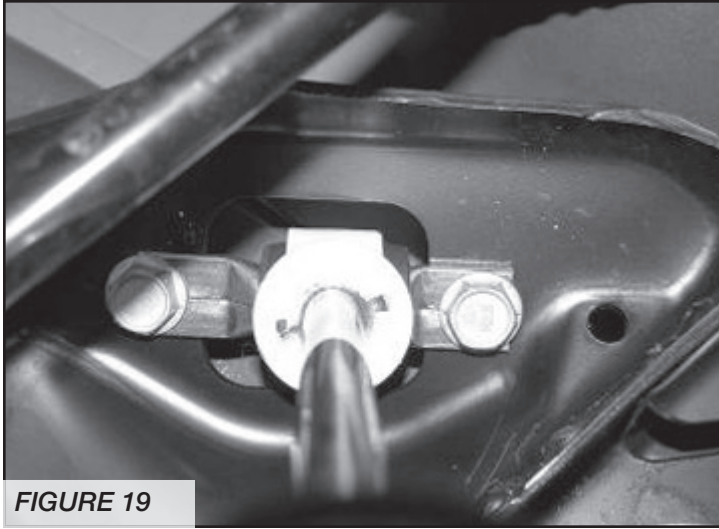

FIGURE 19
22. Install the Fabtech shocks FTS7265 using the supplied FT83255 bar pins or FTS810592 Dirt Logic. Use the factory upper and lower hardware to mount the shocks. Torque the upper hardware to 29 ft-lbs and the lower to 75 ft-lbs. SEE FIGURE 19